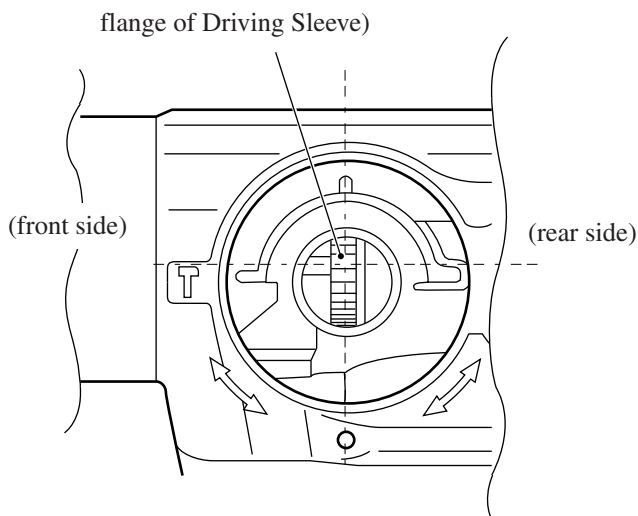

Figure 2
1. When installing Change Lever Complete to Crank Housing, Pin 4 inserted in Change Lever Complete should always be placed in the space on the right of the flange of Driving Sleeve. (See Fig.2 & 3.)